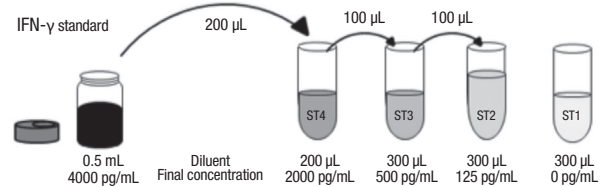

Figure 2. Preparation of standard curve dilutions
- Label four 1.5 mL microcentrifuge tubes from #1 to #4 to generate the dilutions for the standard curve. Serially dilute the standard solution as follows (see Figure 2 and Table 2): Pipet 200 µL of Diluent into tube #4, and 300 µL into tube #3 to 1, as shown in the diagram below. Make a serial dilution of the reconstituted standard (4,000 pg/mL) starting by transferring 200 µL of it into tube #4, and subsequently 100 µL from tube #4 to #3 and then 100 µL from tube #3 to #2, as shown in the diagram, and mixing well after each transfer. Do not transfer any further volume into tube #1 (0 pg/mL).